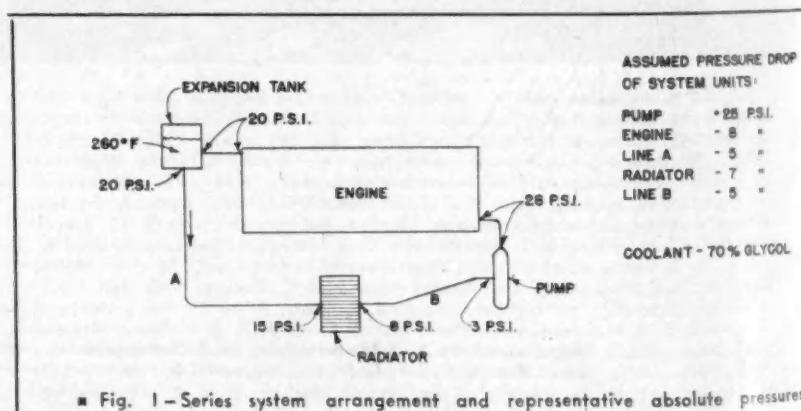

Fig. 1 — Series system arrangement and representative absolute pressures existing.
Series Circuit — The series circuit is used in most British planes and in American planes using British engines. The circuit is shown in Fig. 1, which also shows a representative set of pressures. It will be noted that the absolute pressure at the pump inlet is less than the expansion tank pressure by the amount of the pressure drop through the radiator and its connecting piping.
Fig. 1 shows a cross-section of the piston and cylinder for which a proper ring combination was sought. The selection and development took the course of a broad exploration of ring type, number, and location.
■ Fig. 1 - Cross-section of the piston and cylinder for which a proper ring combination was sought.